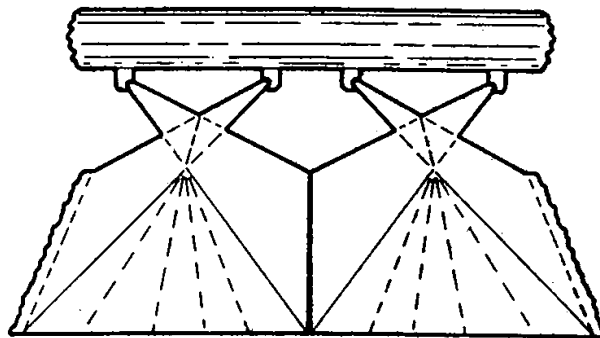

Figure 8. Nozzle Spray Distribution
3. Check to see if the nozzles are producing the spray pattern shown in Figure 8.